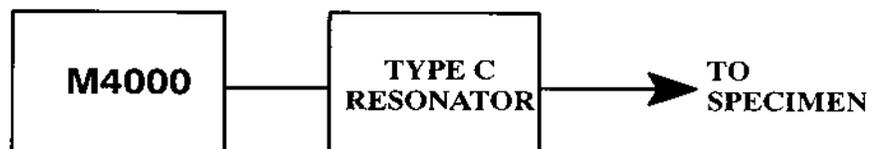

Figure 3.17 Power-Factor Test Set and Type C Resonating Inductor
2. Connect the M4000, the resonator, and the specimen as shown in Figure 3.17